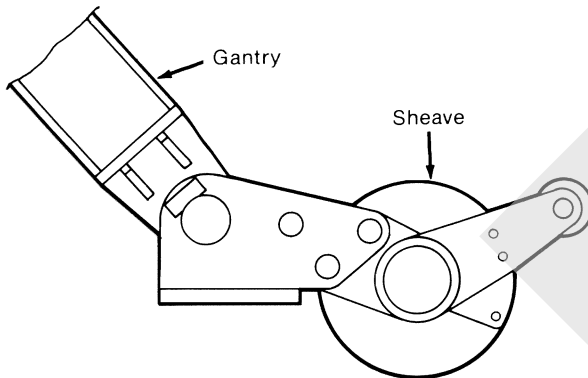

Figure 6. Sheave Arrangement (Gantry in low position)
2. When the gantry is in the low position, pin the sheave arrangement in the low clearance position (see Figure 6).